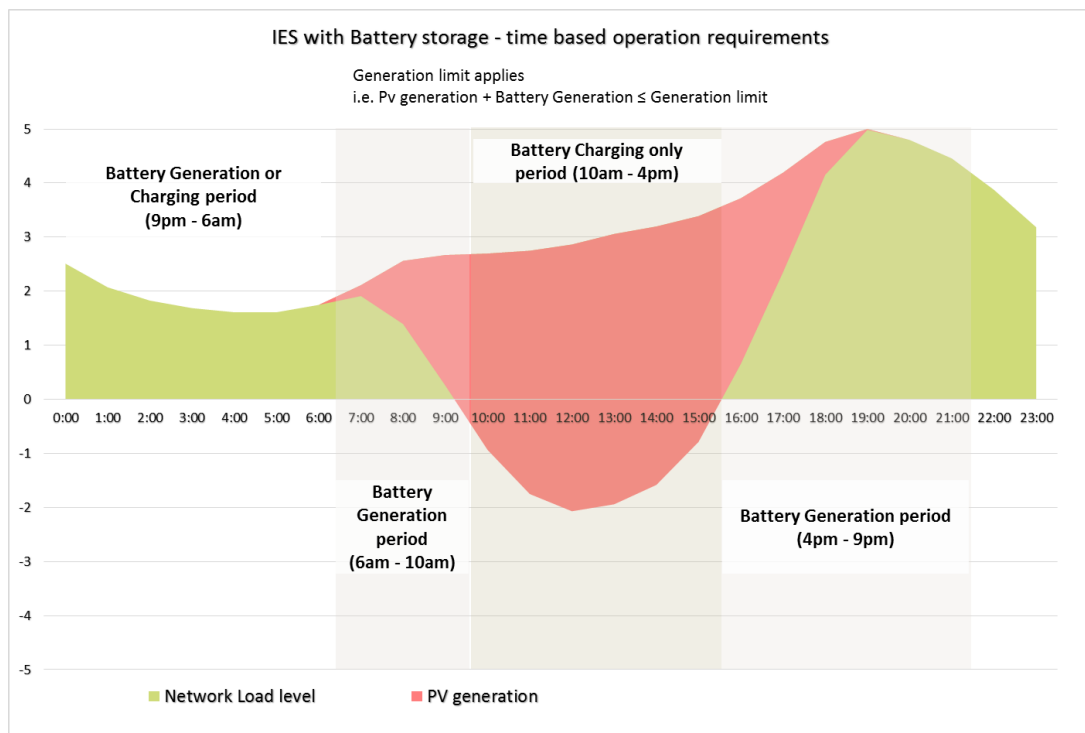

Figure 2 Example load and generation profile with time based operation of Battery IES
- Peak PV generation in residential networks 10 am to 2 pm, during this time charging of battery or net generation reduction is required as shown in Figure 2.
- Peak load time in residential networks is approximately 4 pm to 9 pm during this time discharging batteries or net-load reduction is required as shown in Figure 2.